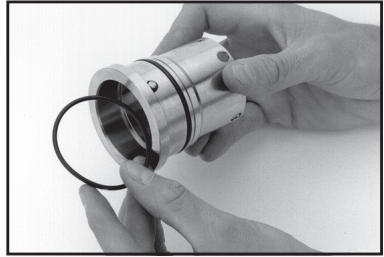

Figure 11
4.3.2 Coat all **sleeve O-rings** with silicone lubricant and **install them onto the sleeve**. See Figure 11.